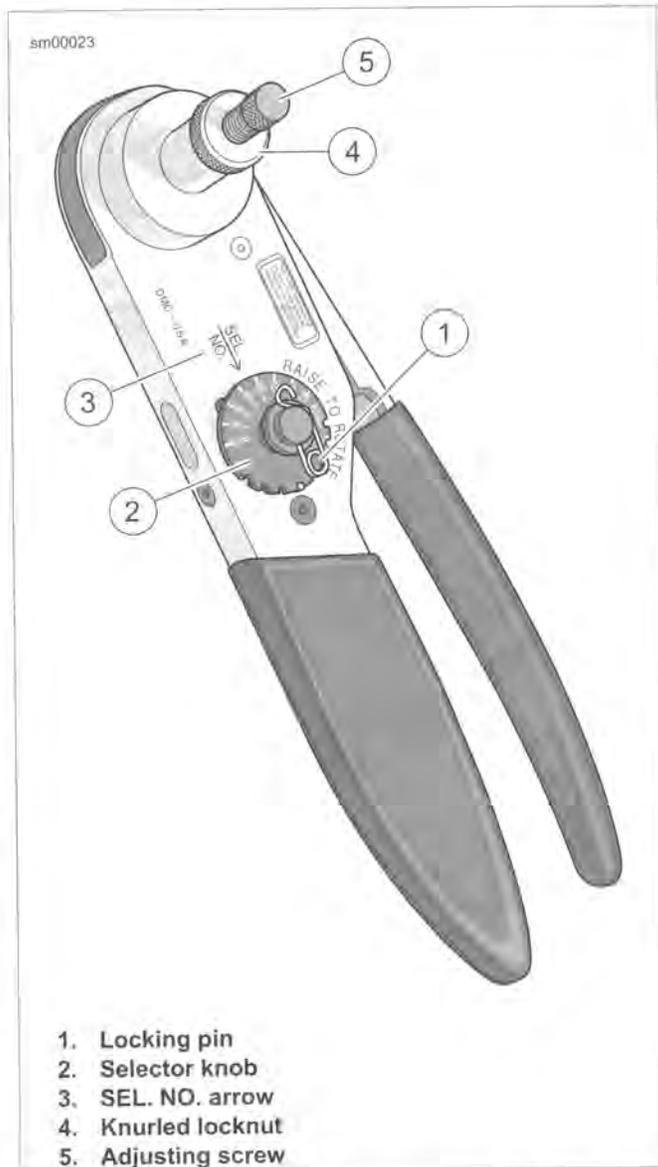

Figure A-38. Electrical Crimper Tool (HD-42879)
1. See Figure A-38. Squeeze the ELECTRICAL CRIMPER TOOL (Part No. HD-42879) handles to cycle the crimp tool to open.
2. Remove locking pin (1) from selector knob (2).
3. Raise selector knob. Rotate knob until selected wire size stamped on wheel is aligned with "SEL. NO." arrow (3).
4. Loosen knurled locknut (4) and turn adjusting screw (5) clockwise (in) until it stops.